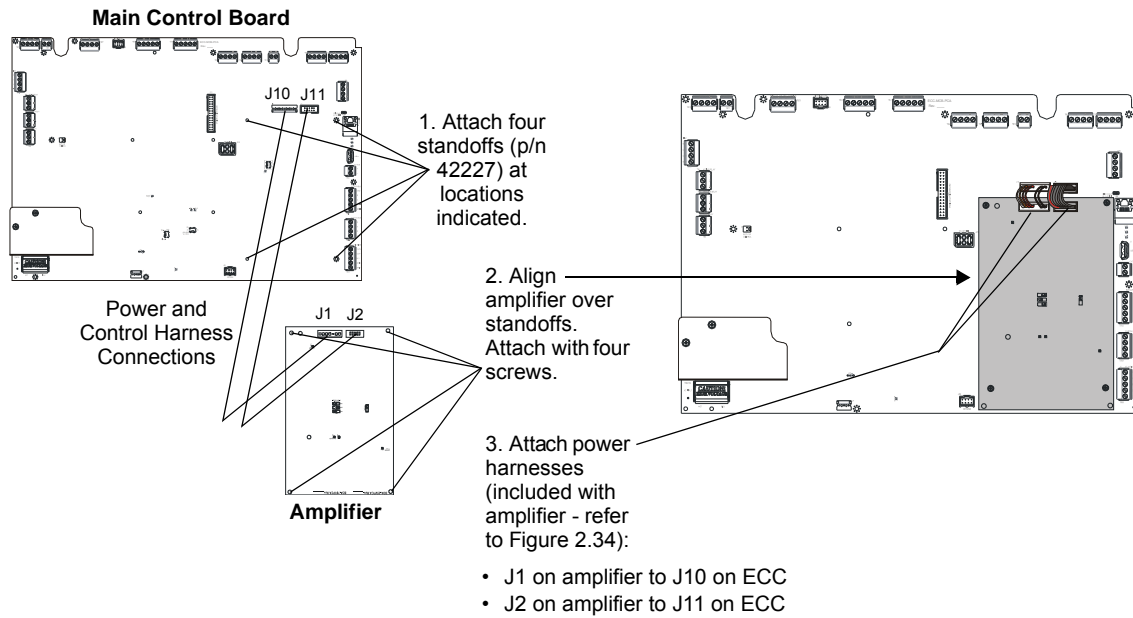

Figure 2.33 ECC-50W-25/70V Installation
Figure 2.33 shows the installation of a ECC-50W-25/70V onto an ECC-50/100 panel. The optional amplifier may be programmed and wired for backup or for providing a second audio channel.
1. Remove mounting screws shown, from the main control board, and save (refer to Figure 2.33).